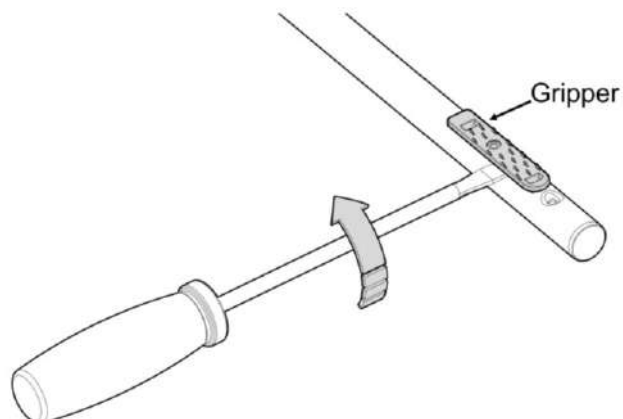

FIGURE 11
11. Remove grippers from legs **A** and **B** as shown. *FIGURE 11*